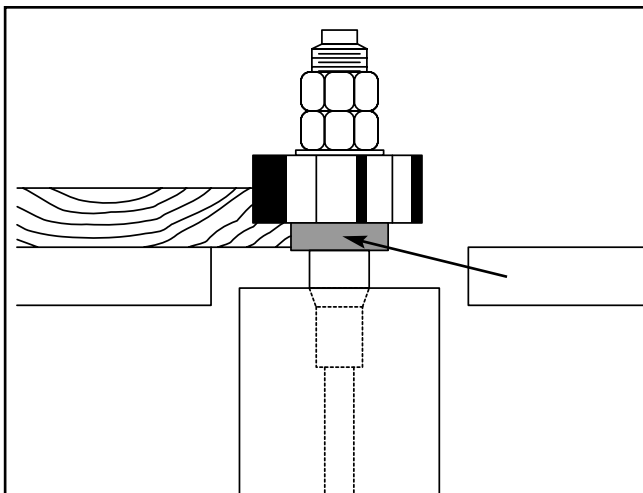

Figure 38. Rub collar installed below cutter.
1. **Rub collar below the cutter:** When the rub collar is used below the cutter as shown in **Figure 38**, the progress of the cut can be observed. However, any unintentional movement may lift the workpiece into the cutter, damaging your work and creating a dangerous situation that may result in kickback. We do not recommend using the rub collar below the cutter.